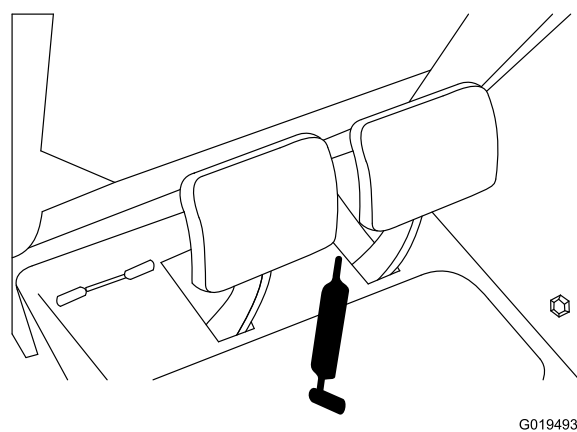

Figure 49
- Brake pedal shaft (1) (Figure 49).